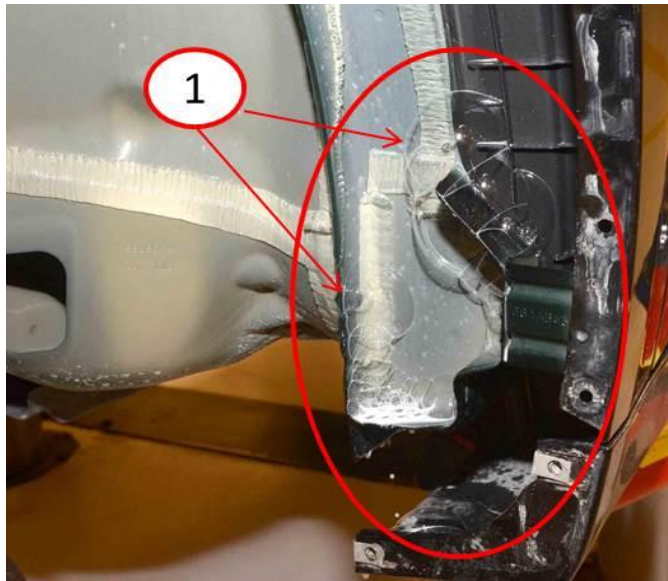

Fig. 6 Air Bubbles Behind Inner Fender Well Location
5. Is there air/bubbles leaking from the seam area behind the inner fender well (Fig. 6)?